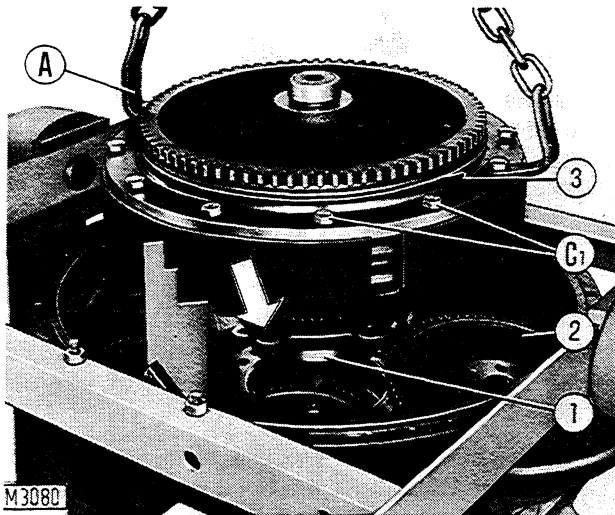

Fig. 5 - Disassembling or assembling clutch assembly using lifting chains 75291517 (A).
- Slacken capscrews (C₁, Fig. 5), attach lifting chain 75291517 (A) and secure to hoist. Position the bearing carrier (1) so that the lug arrowed does not interfere with the gears and remove the complete clutch assembly.